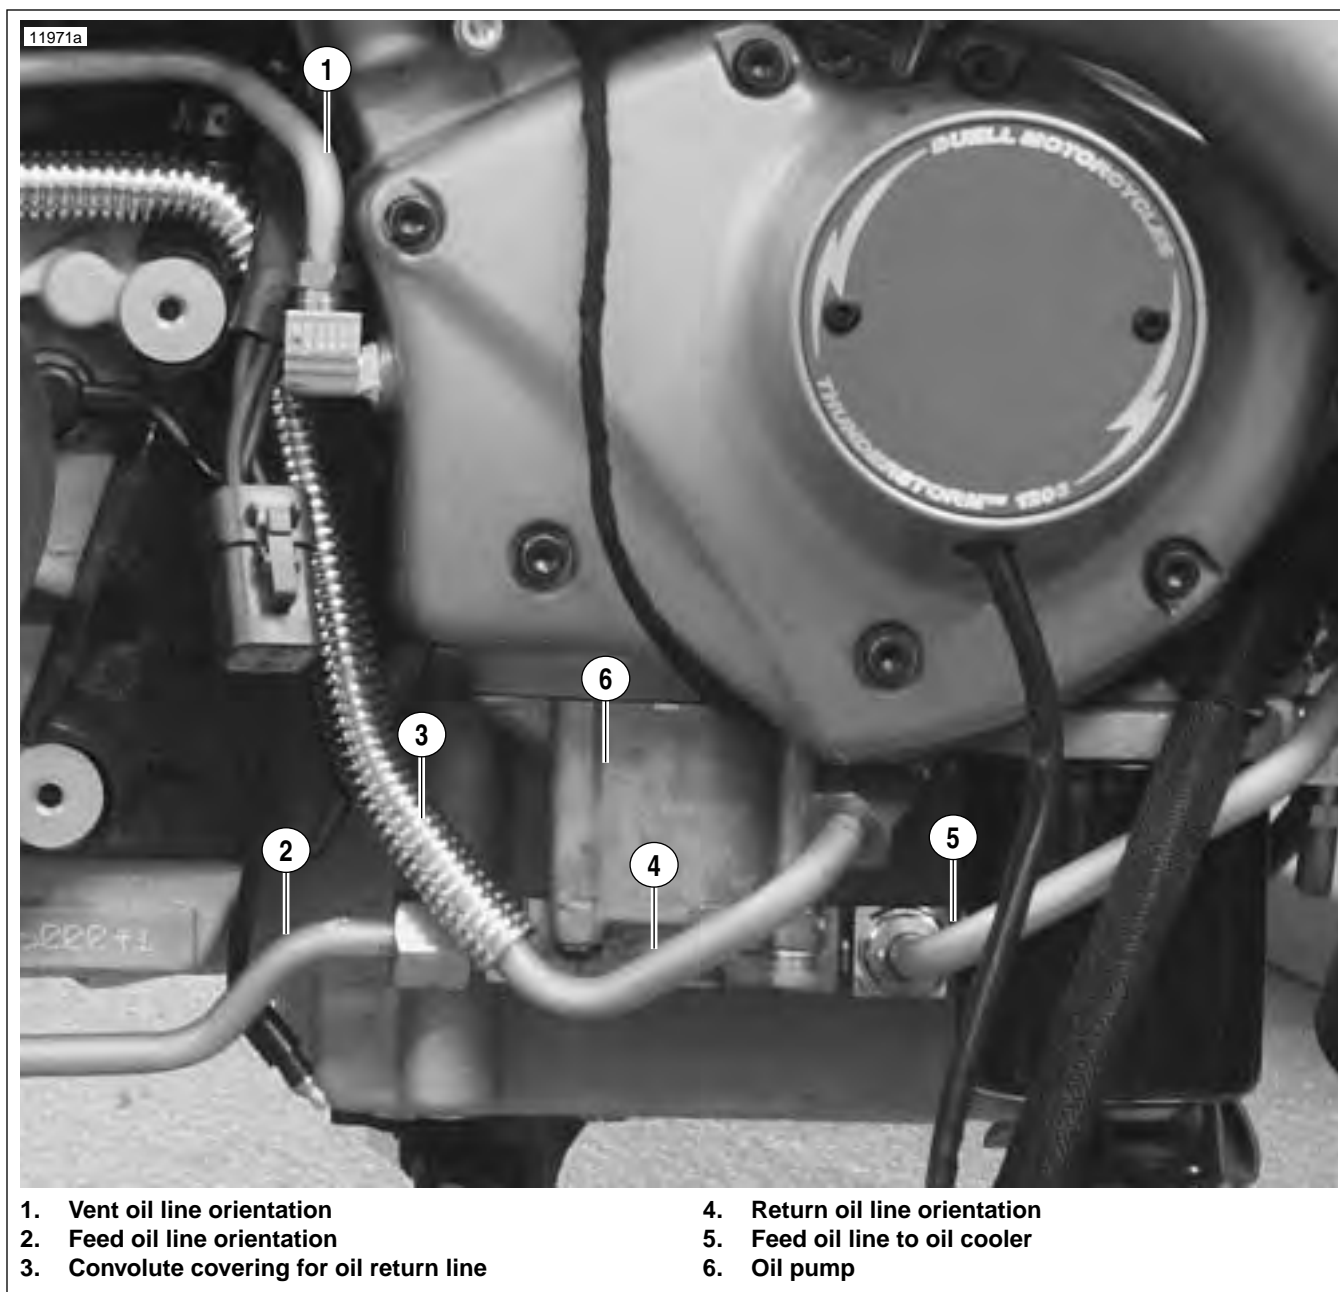

Figure 3-47. Orientation of Feed Oil Line, Vent Oil Line and Return Oil Line at the Oil Pump
25. See Figure 3-47. The feed oil line (2) at the rear of the of the oil pump should be tightened to 27-29 ft-lbs (36.6-39.3 Nm).
26. Tighten the return oil line (4) at the top front oil pump fitting to 22-24 ft-lbs (29.8-32.5 Nm).
See Figure 3-47. Once the return oil line (4) has been installed it will be necessary to install the convolute covering (3) over the return oil line.
27. Tighten the vent oil line (1) at the gearcase cover to 12-13 ft-lbs (16.3-17.6 Nm).